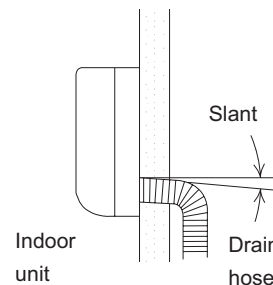

Fig. 2-193
- a) The drain hose should be slanted downward to the outdoors. (Fig. 2-193)